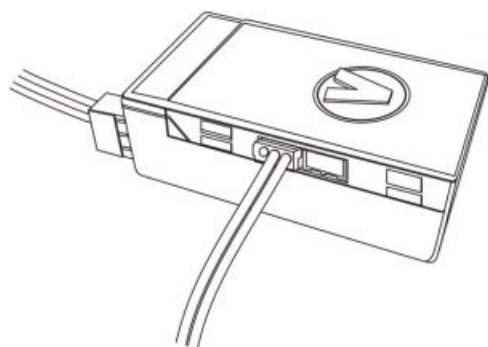

Figure 8
- The white data interface on the side of VBAR NEO Gyro Flybarless system(as shown in figure 8) .